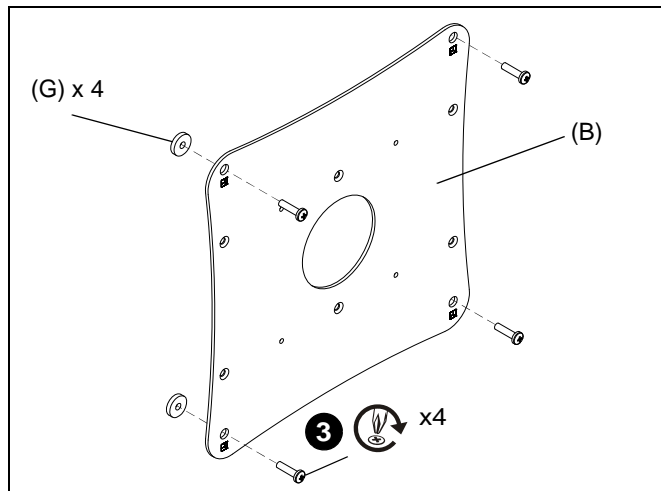

Figure 10
3. Use four nylon spacers (G) and four screws removed in Step 1 to attach interface bracket (B) to the back of the display. (See Figure 10)